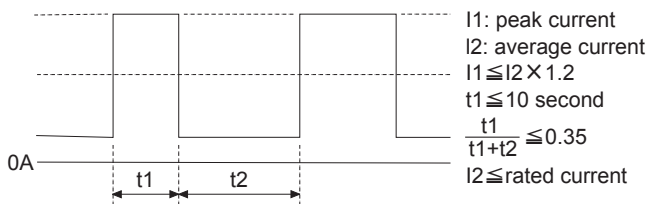

Fig.2.1 Peak current
■ Fig.2.1 shows the available range of peak output current.